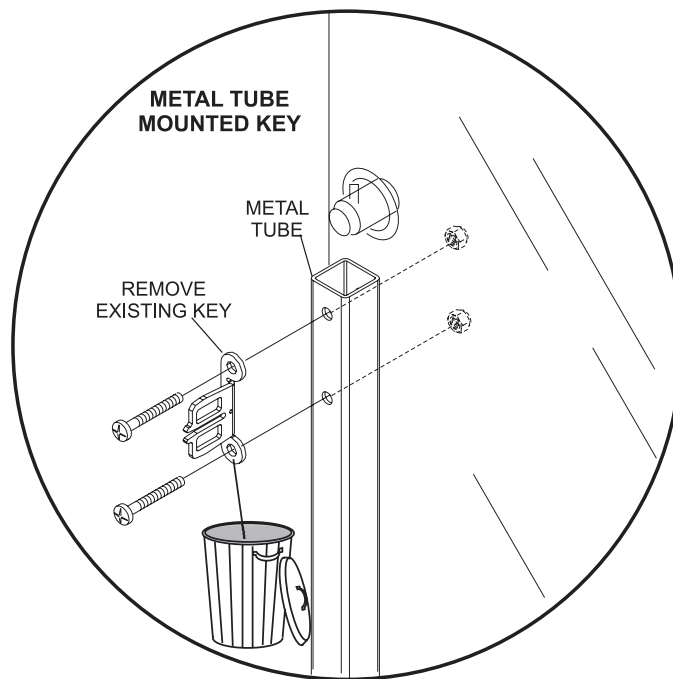

Figure 1
1. Remove the old ball return door interlock key installed on square metal bar of door. Refer to *Figure 1*.